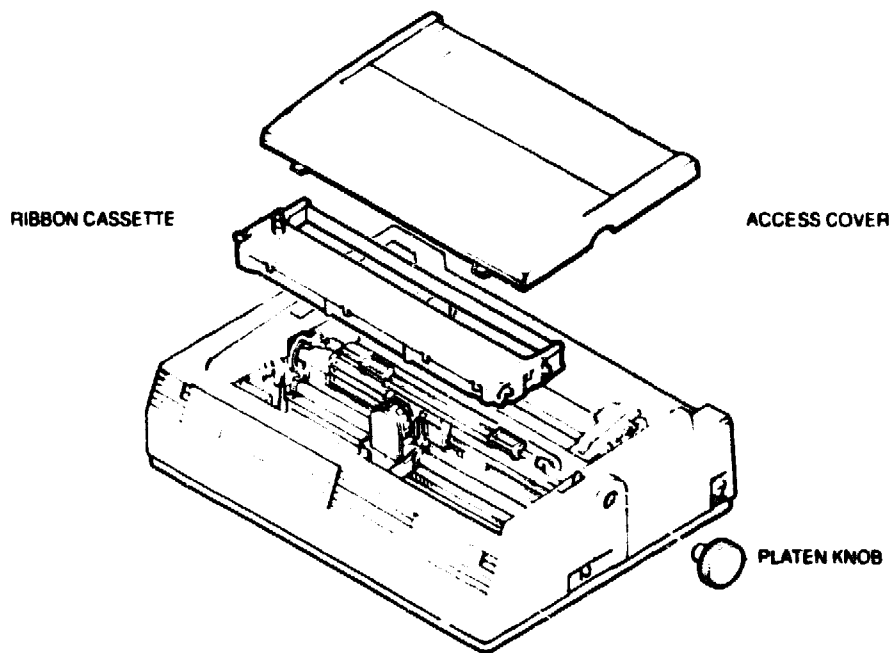
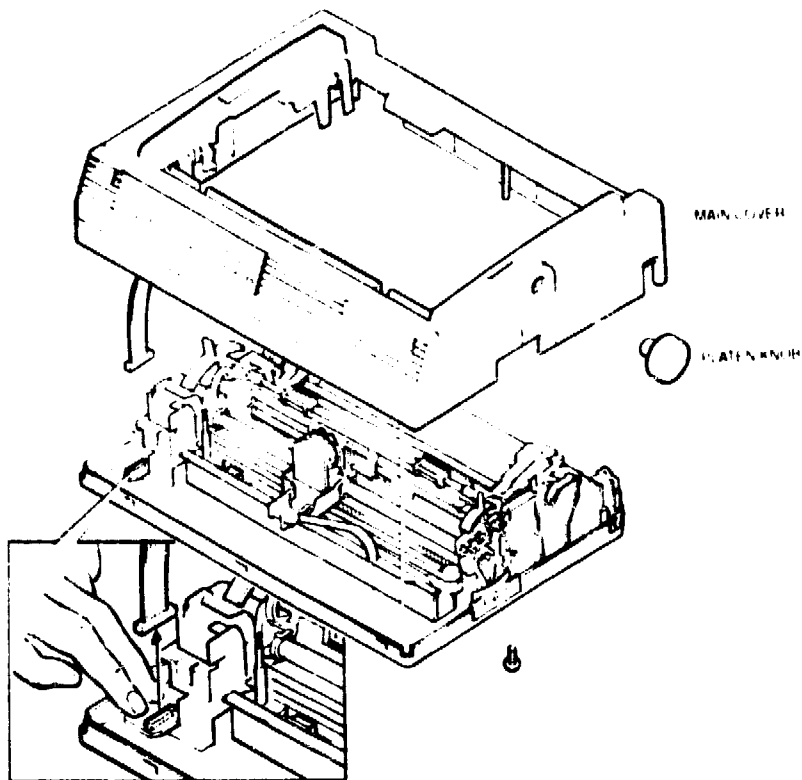

Figure 6-3 Removing the Access Cover and Ribbon Cartridge
Figure 6-4 Removing the Main Cover
The printhead can be replaced by removing the access cover. Access to all other FRUs is gained by removing the main cover (see Figure 6-4).
Refer to Figure 6-3 and Figure 6-4.
6. Remove the main cover (see Figure 6-4).
- 6. Remove the main cover (see Figure 6-4).**